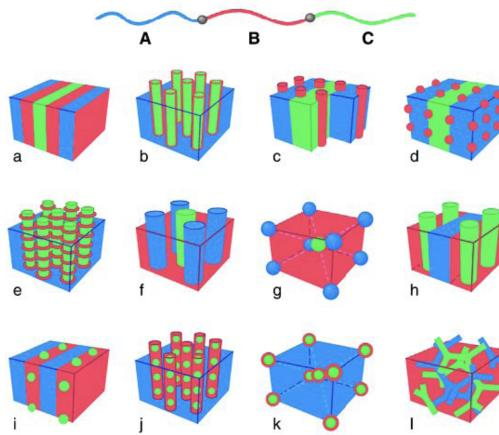

Figure 2.10: Self-assembly of an ABC triblock copolymer.
- If we have something like (a) of Figure 2.10, then we probably have $N_A = N_B = N_C$ (because everything is nice and equally ordered) and $\chi_{AC} < \chi_{AB} \approx \chi_{BC}$ (because we have AB and BC interfaces, but not AC interfaces).
- If we can do everything in Figure 2.10 with 3 things, imagine how much we can do with the 20 amino acids!
- **Min-max principle:** Phases are most stable when we (1) minimize interfacial energy and (2) maximize the conformational entropy of the chains.